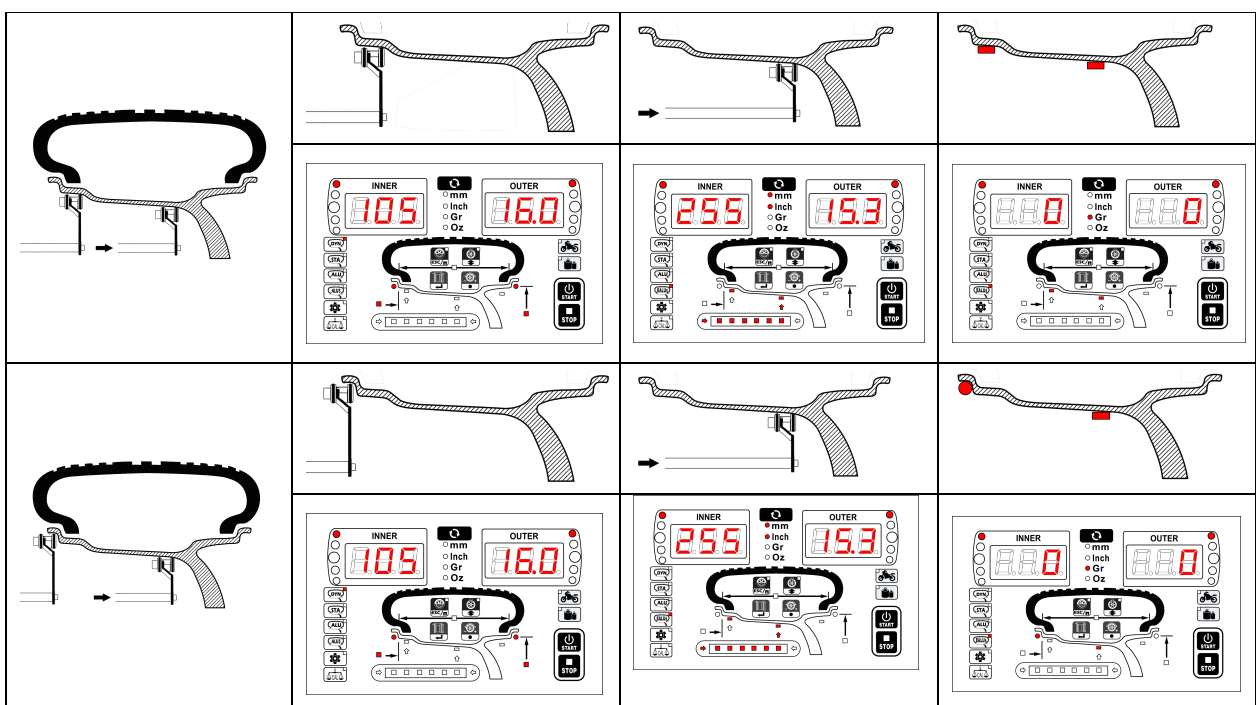

Fig.28 EALU balance measurement mode
5.3.5.1 Enter EALU mode (Fig.28)